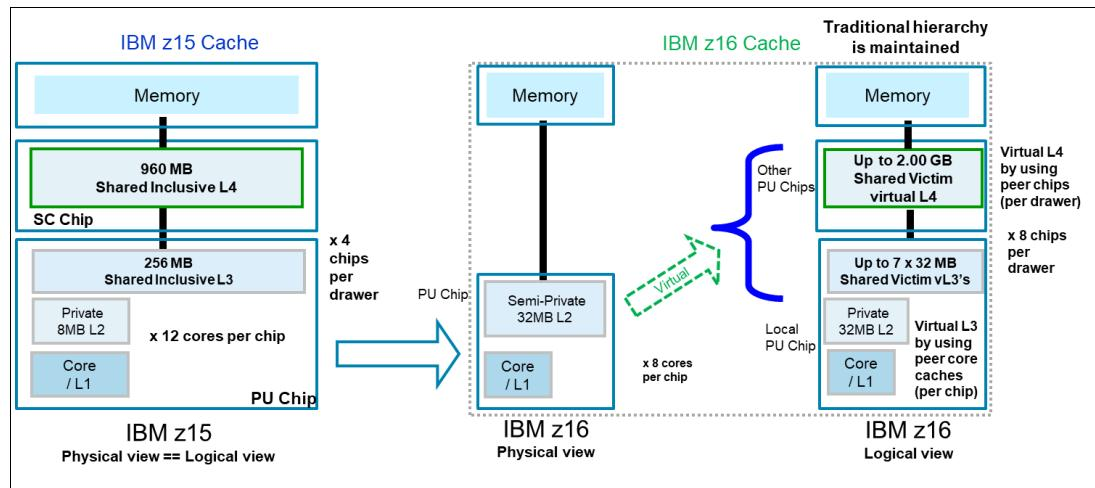

Figure 9-4 Cache hierarchy: IBM z15 vs. IBM z16 A02 and IBM z16 AGZ
- provides virtualized L3 (shared victim) and virtual L4 (shared victim) caches (see Figure 9-4).